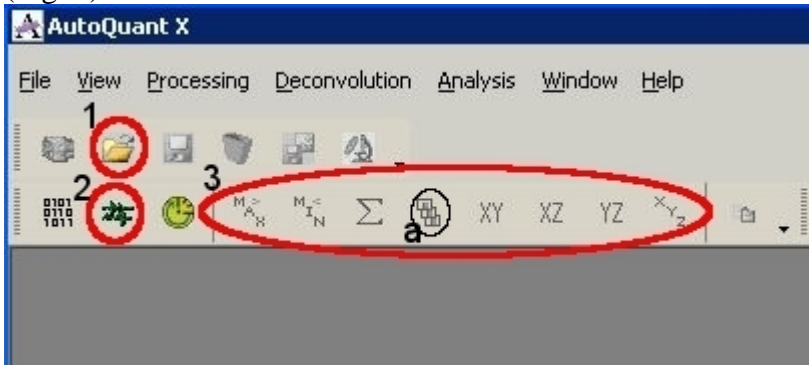

Figure 1. Selections for opening a file (1), display status (2), and alternative XYZ view modes (3).
1. Open your previously saved zvi-file from FILE > OPEN, or use the specific icon on the menu bar (Fig. 1).
2. Browse through your image set by selecting SLICE VIEWER from the main menu bar (Fig. 1, icon 3a). You can also choose different modes to view your data set: Max, Min, or Sum projections, and XYZ views.
e. The deconvolution process and the remaining time can be followed choosing VIEW – DISPLAY STATUS (Fig. 1).